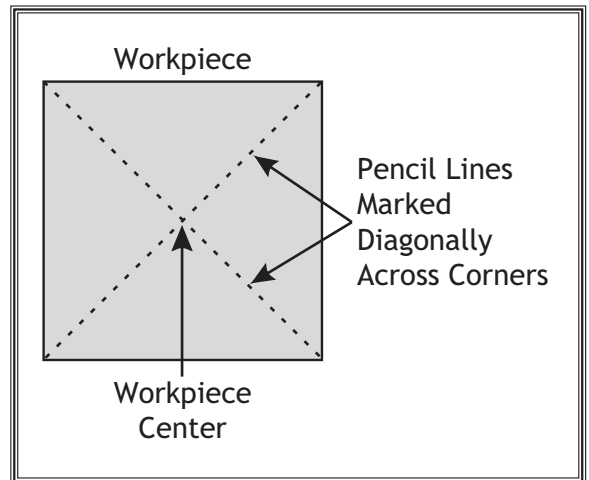

Figure 27. Workpiece marked diagonally from corner to corner to determine the center.
1. Find the center point of both ends of your workpiece by drawing diagonal lines from corner to corner across the end of the workpiece (see **Figure 27**).